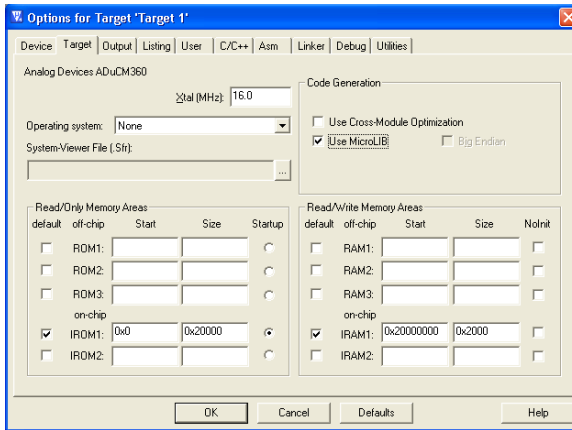

Figure 19. Options for Target
- Ensure the **IROM1** and **IRAM1 Start and Size** fields are filled as shown in Figure 19.